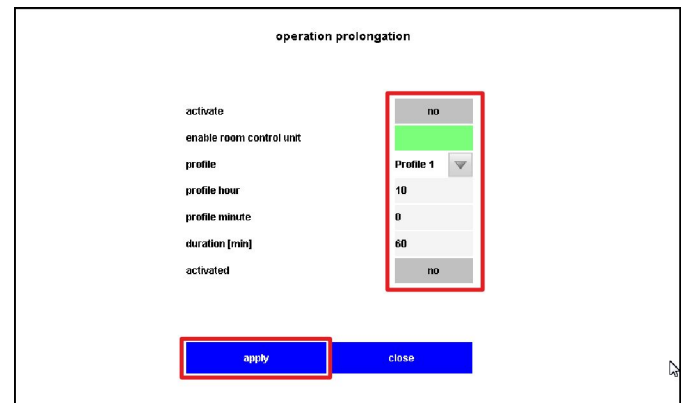

Fig. 40: 'Operation prolongation' (operating time extension)
- ▶ Press 'activate' (Fig. 40) to extend the operating time.
- ▶ Press the 'profile' field (Fig. 40), then select a previously set profile.
- ▶ Select the 'profile hour' and 'profile minute' fields (Fig. 40).
- ▶ Select the 'duration' (Fig. 40) field, then enter the number of minutes by which you want to extend the operating time.
- ▶ Press 'apply' (Fig. 40).